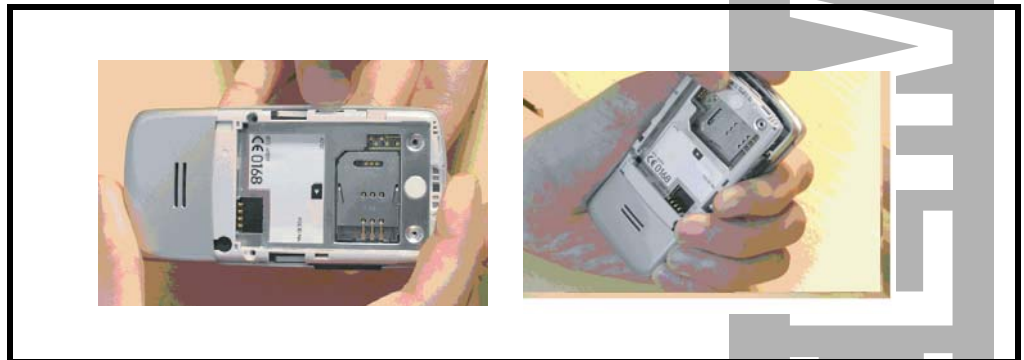

Figure 9. Removing the hooks
3. Release the hook between Case-C & D by fingernail as shown in Figure 9.